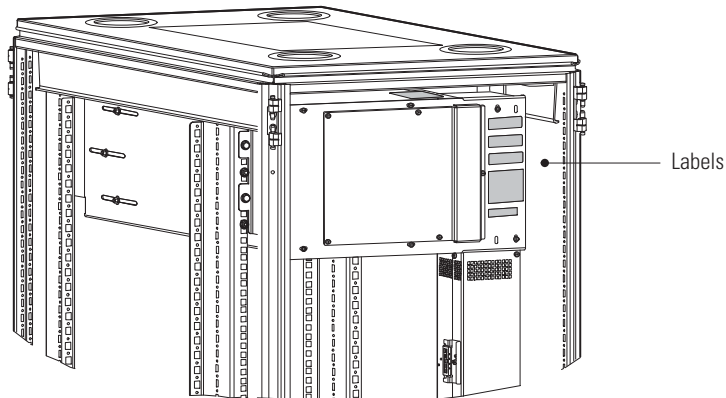

Figure 19. Wireway Labels
23. Verify that the six information labels are attached to the wireway as shown in Figure 19.